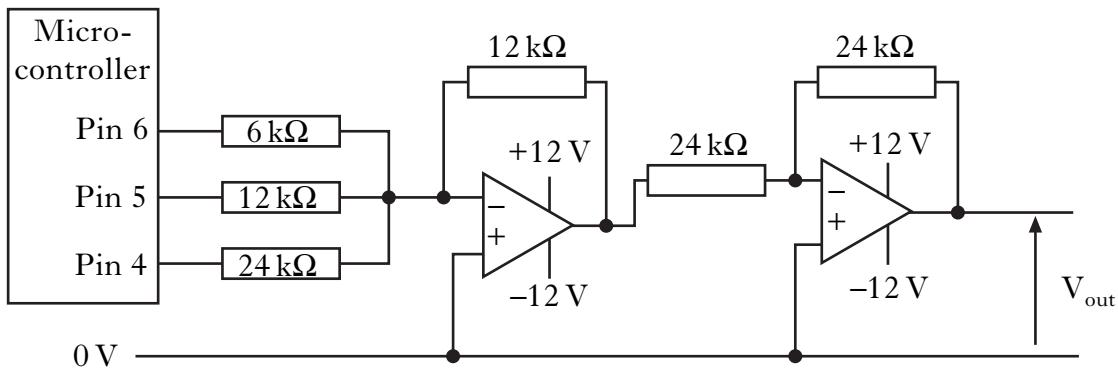

Figure Q5
5. A digital-to-analogue converter (DAC) is shown in Figure Q5. A microcontroller provides the input signals to the DAC. The output voltage, V_{out} , from the DAC controls the speed of a motor.